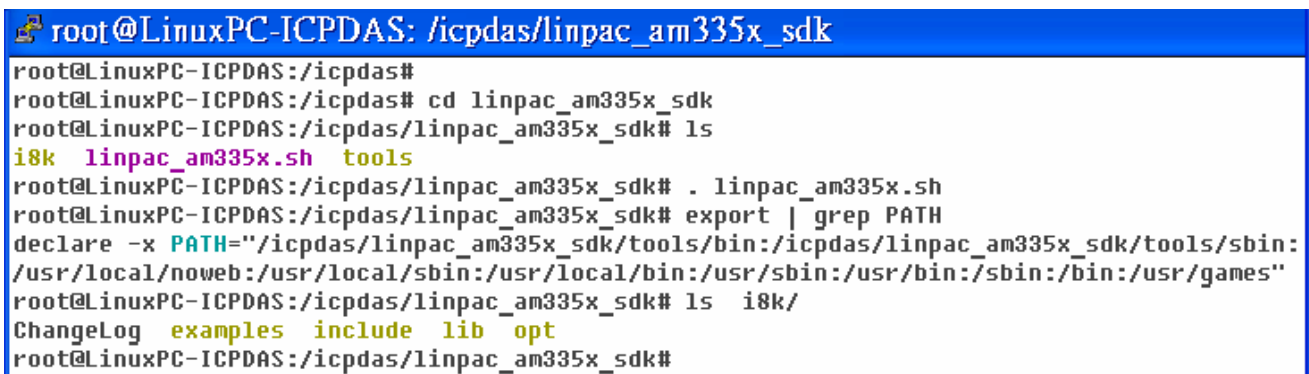

Fig. 2-5
4. Before compile the program, you need to set LinPAC AM335x SDK path in environment variables: using the provided environment variable script, which is called **linpac_am335x.sh** (refer to Fig.2-5).